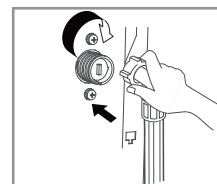

Fig. 22
- Insert the filter into the valve and tighten up the inlet hose. (Fig. 22)